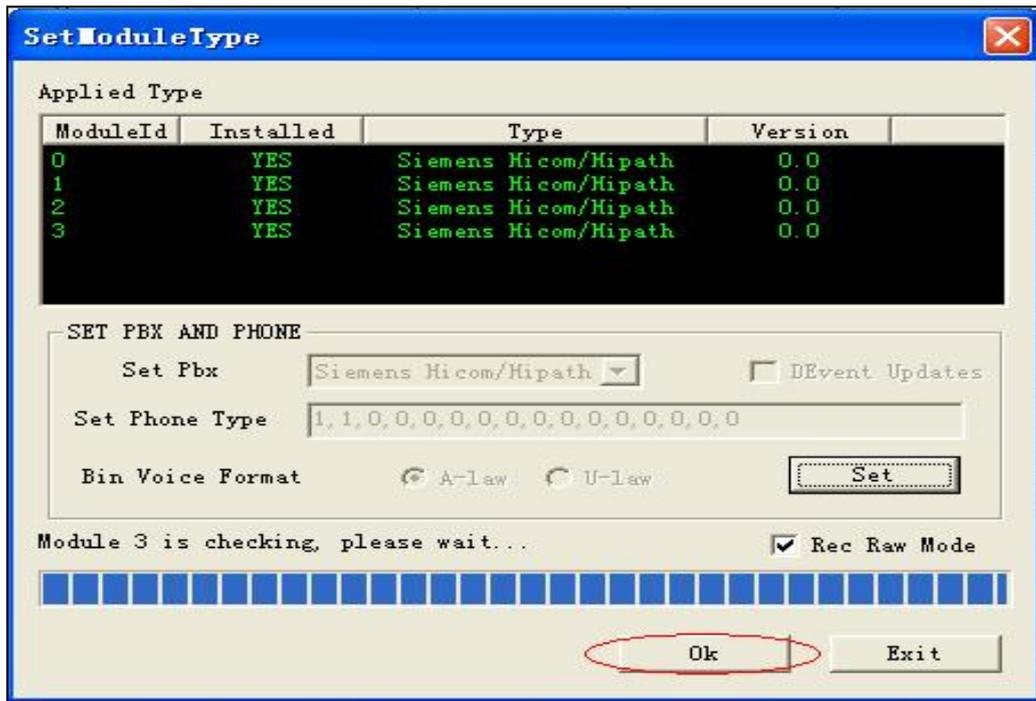

Figure 3-8 For A-type Boards
Step 7 : Click the button 'Ok' to exit the dialog 'SetModuleType' as shown in Figure 3-8